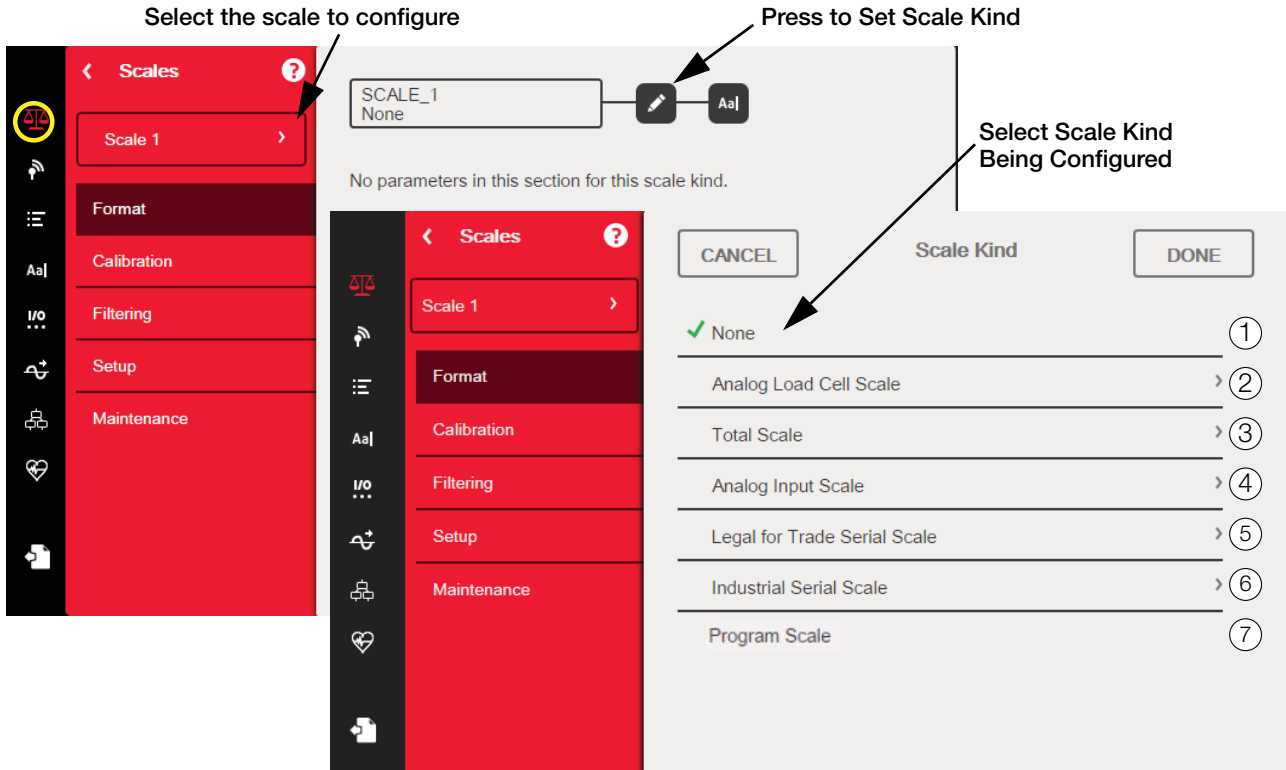

Figure 4-1. Select Scale Kind (Type)
From the *Configuration* menu, select the Scales icon  (circled in Figure 4.1) to enter the *Scales* menu. Once all parameters have been set, press  to return to weigh mode.
1. Select the scale (1-8) to be configured from the drop-down menu in Figure 4-1.